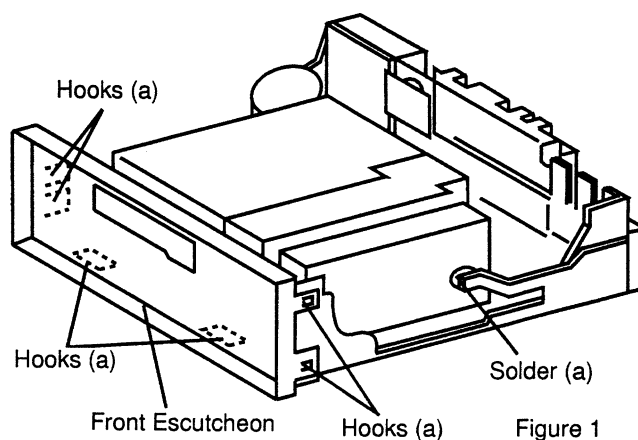

Figure 1
- (1) After removal of Assy., Face Plate and Top Cover, remove the Hooks (a) as shown in Figure 1
- (2) Remove the solder (a) and Hooks (c) as shown in Figure 1, 2.
- (3) Disconnect two Connectors from the Main P.C.Board.